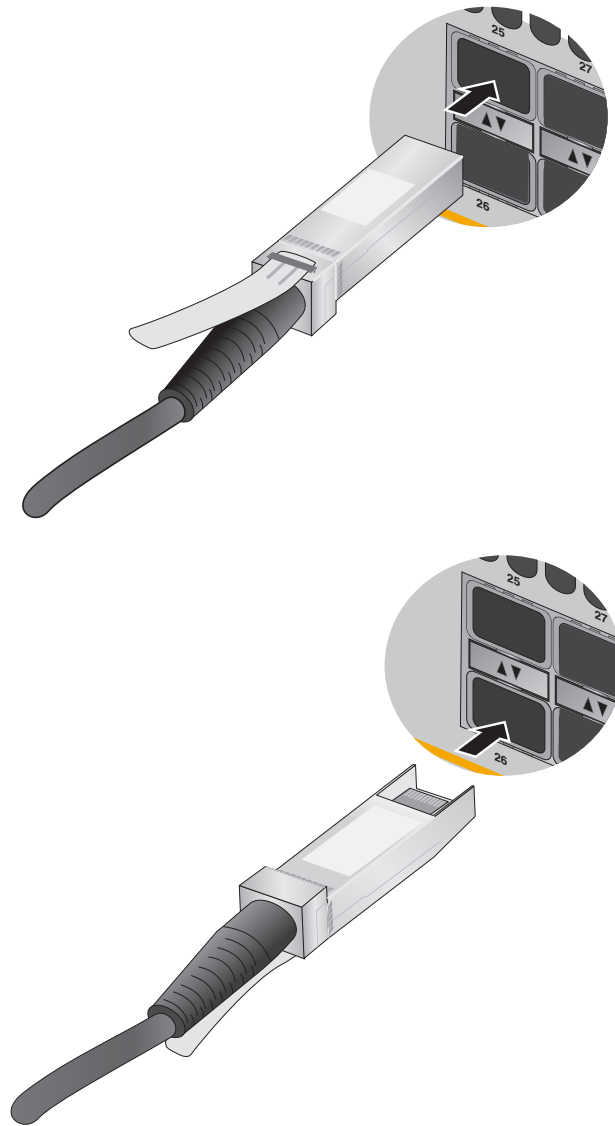

Figure 95. Installing SP10TW Cables
3. To install the transceiver in a port in the top row, position the transceiver with the Allied Telesis label facing up. To install the transceiver in a port in the bottom row, position the transceiver with the label facing down. Refer to Figure 95.